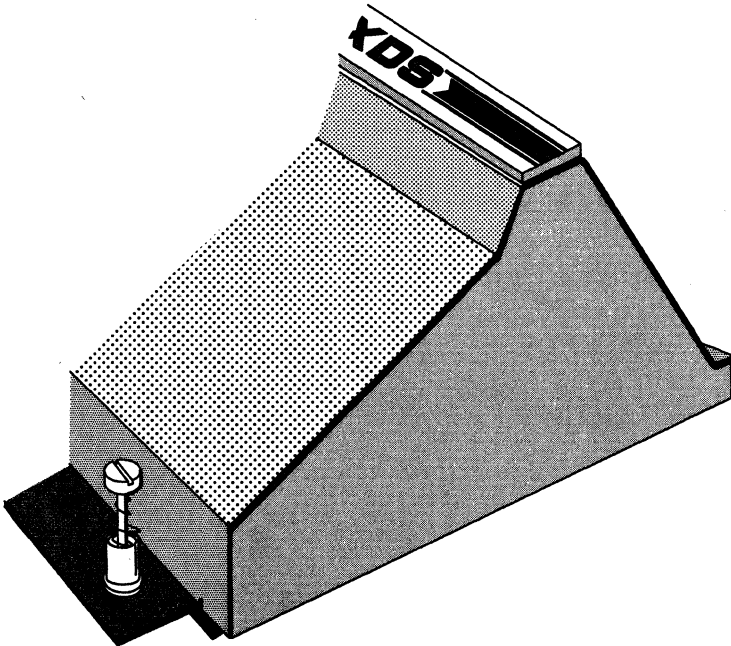

Figure 2-1. XDS/22 Card-Cage Cover, Right Side
- 3) Remove card-cage cover by loosening two captive thumbscrews (Figure 2-1), pressing upward and inward on cover, then lifting it out. Be careful not to snag cables.